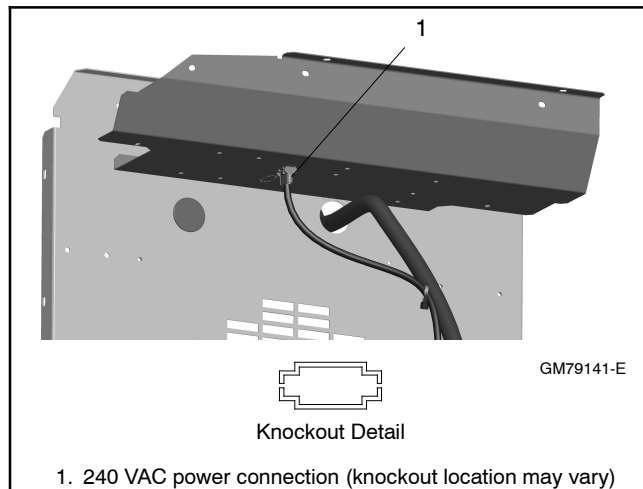

Figure 7 240 VAC Power Cord and Knockout
15. Generator sets built after 10/9/2013 with serial numbers SGM327VFJ or later have a knockout under the controller for the 240 VAC power connector. Remove a knockout in the bottom of the controller box. See Figure 7.
16. Insert the heater's power cord connector into the knockout opening. See Figure 7. Confirm that the connector clicks securely in place.